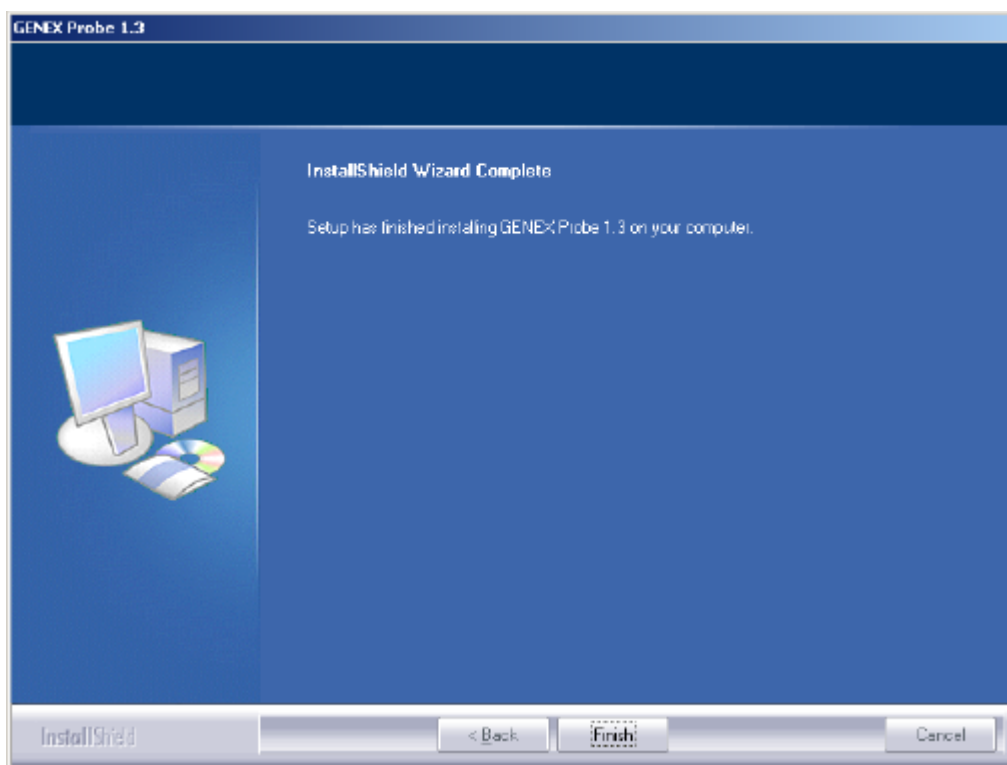

Figure 4-5 Completing the installation
- 7) Click **Finish** in the **InstallShield Wizard Complete** dialog box, as shown in Figure 4-5.